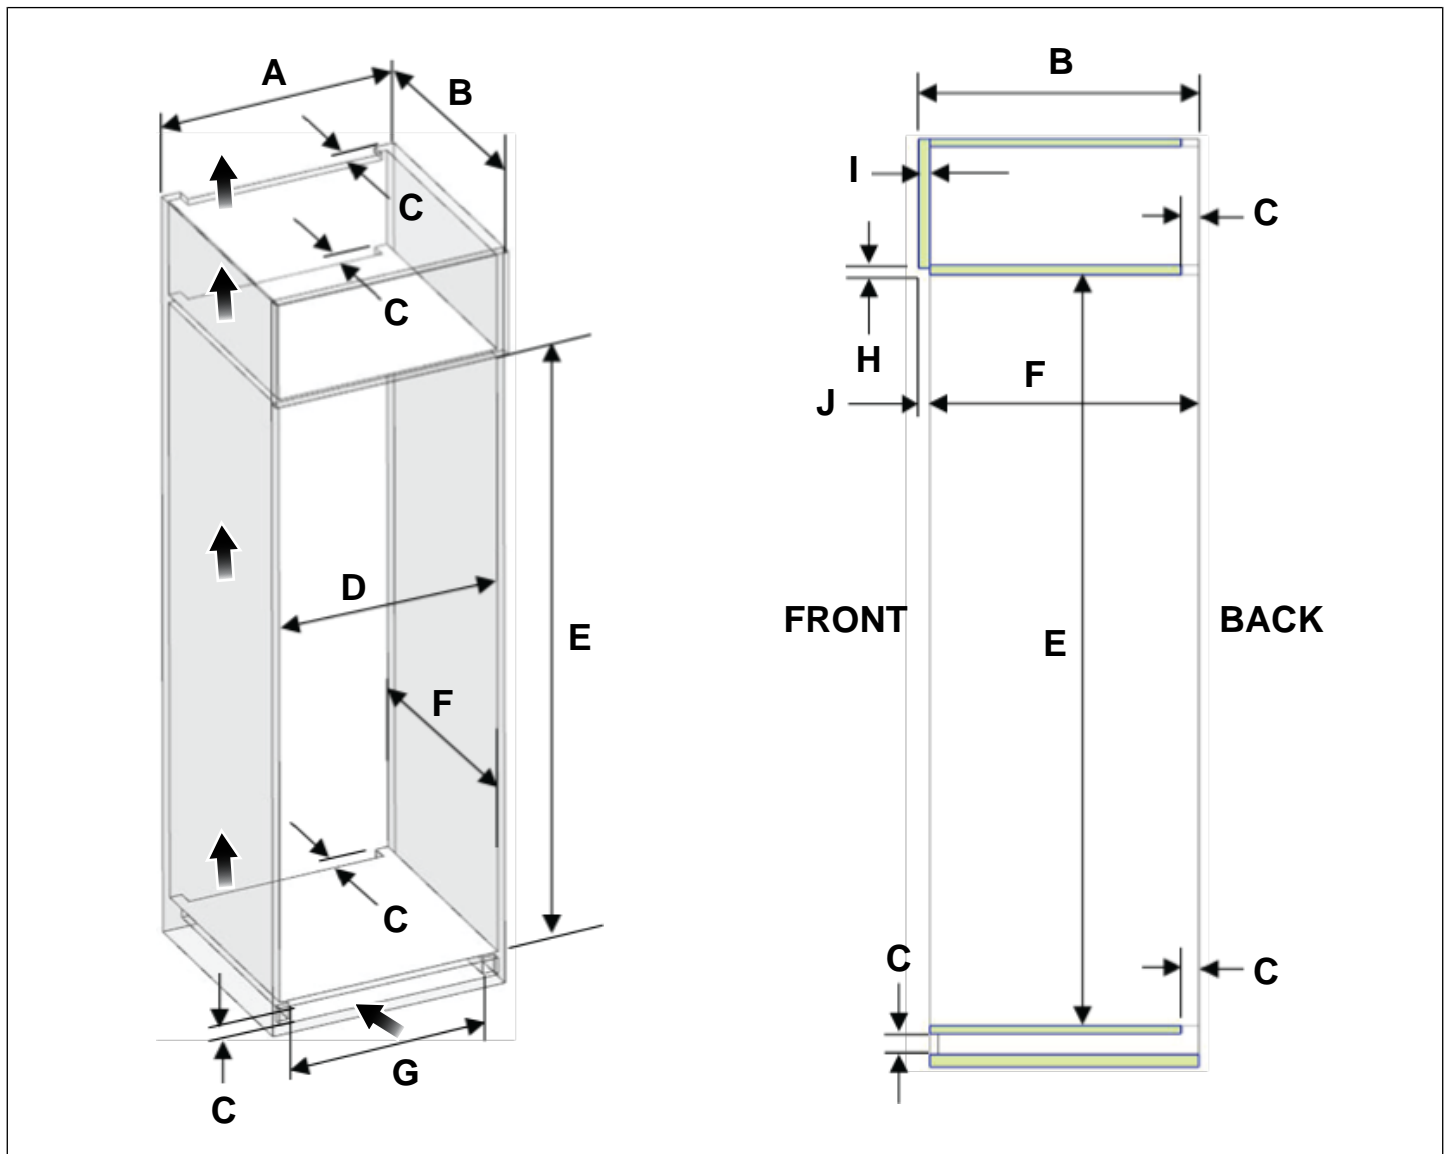

Fig. 2
- 2) Open the door and keep a 40,5 mm distance between the front of the wine column and the outer edge of the cabinet niche, as shown in Fig. 2. Attach the connection pins with M5x13 flange face bolts to the appliance.